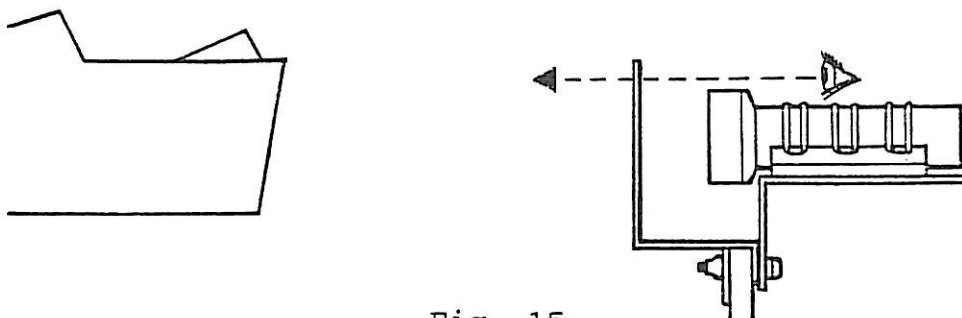

Fig. 15
- Move to the rear of the checking unit and taking care not to move the stand, look at the Headlamp Aligner through the top vertical slit (see Fig. 15).